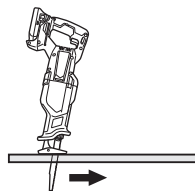

Fig. 24
- (3) Hold the body firmly until the saw blade completely cuts into the material. (Fig. 24)